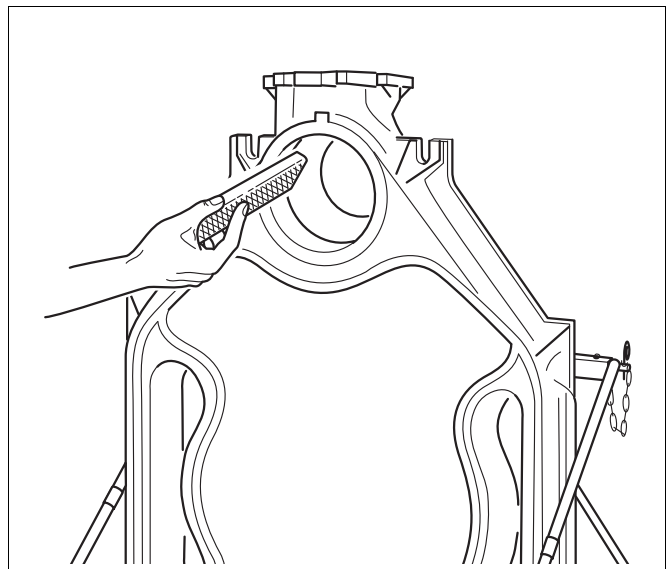

Fig. 12 Remove burr
- Remove possible burrs from the hub using a file (Fig. 12).
- Remove any burrs from the hub using a file (→ Fig. 12, page 20).